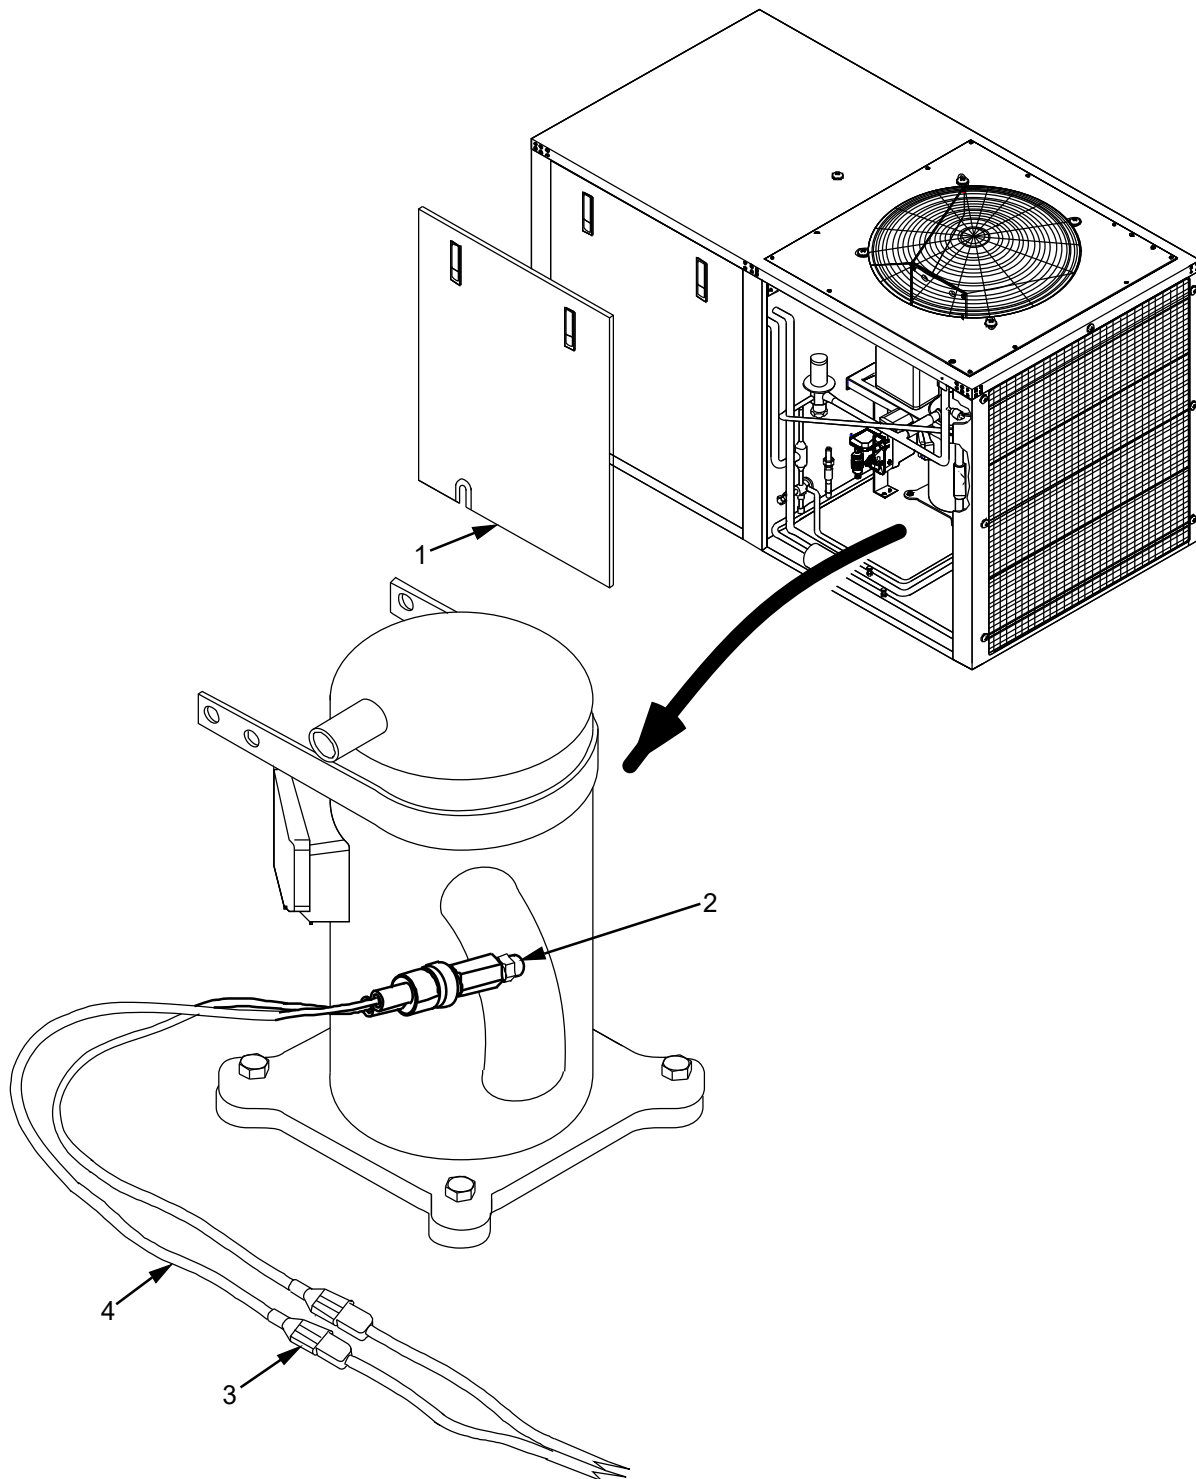

Figure 3. Low Pressure Cut-Off Switch Replace.
2. Remove access panel (Figure 3, Item 1) from ECU and set aside.
4. Mark and disconnect two terminals (41C and 43A) (Figure 3, Item 3) from low pressure cut-off switch electrical connection (Figure 3, Item 4) and set aside.
5. Unscrew low pressure cut-off switch (Figure 3, Item 2) and remove.
1. Install low pressure cut-off switch (Figure 3, Item 2) and tighten.
2. Connect two terminals (41C and 43A) (Figure 3, Item 3) from wiring harness to low pressure cut-off switch electrical connection (Figure 3, Item 4).
6. Replace access panel (Figure 3, Item 1).